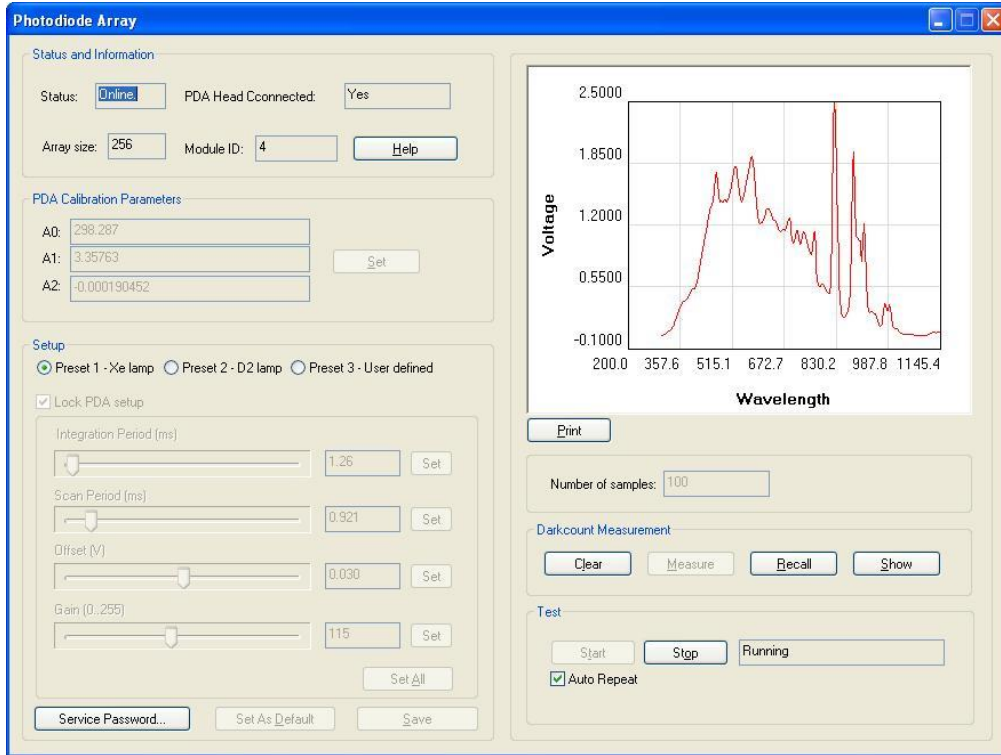

Figure 4.6 - PDA gain and offset settings
3. You should see a profile of the lamp with a peak maximum at around 468 nm. This peak maximum should be between 1.5 - 1.8 V. If it is too low, increase the gain, click set, then take another measurement by clicking on start. If it is too high, decrease the gain, click set, and then click start. The trace shown in Figure 4.6 requires a decrease in gain.